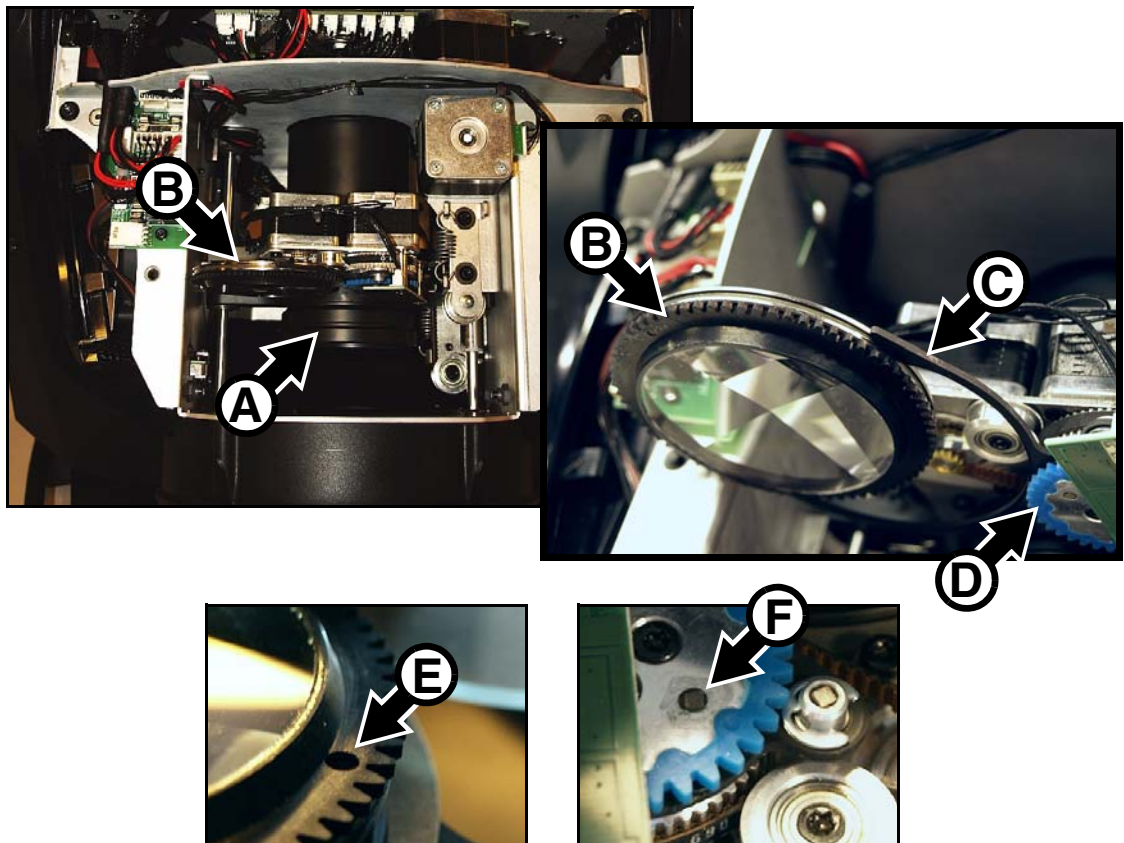

Figure 18: Prism removal and installation
3. See Figure 18. Slide the zoom/focus car **A** to its forward limit.